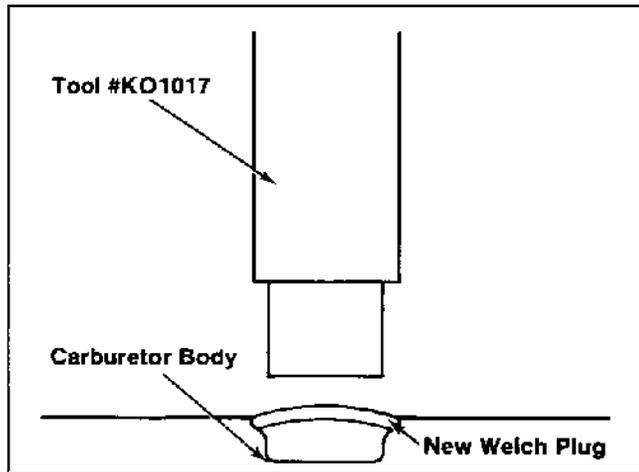

Figure 5-8. Installing Welch Plug.
3. Use the end of the tool that is about the same size as the plug and **flatten** the plug. Do not force the plug below the surface of the cavity. See Figure 5-8.